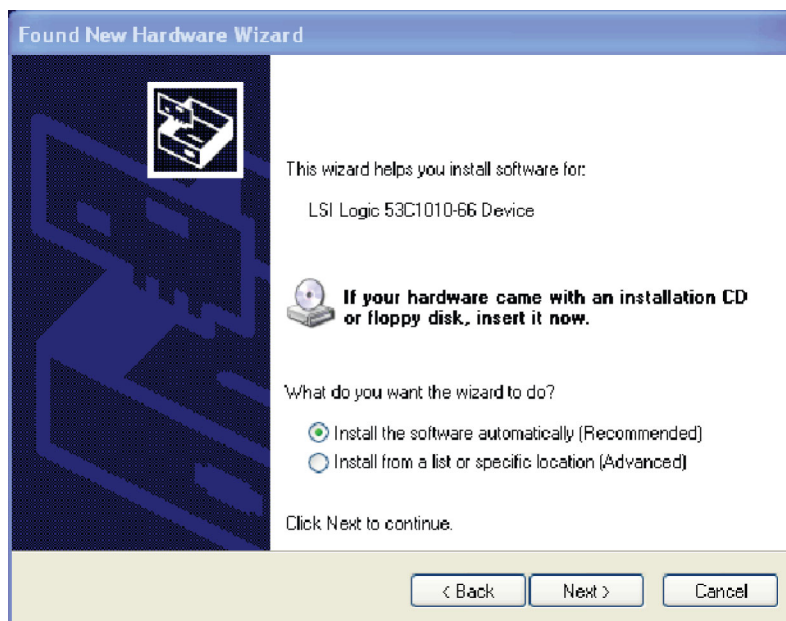

Figure 2: Found New Hardware Wizard page 2
3. On the second page of the wizard, verify that **Install the software automatically (Recommended)** is selected. No installation CD or floppy disk is required. (See Figure 2.)